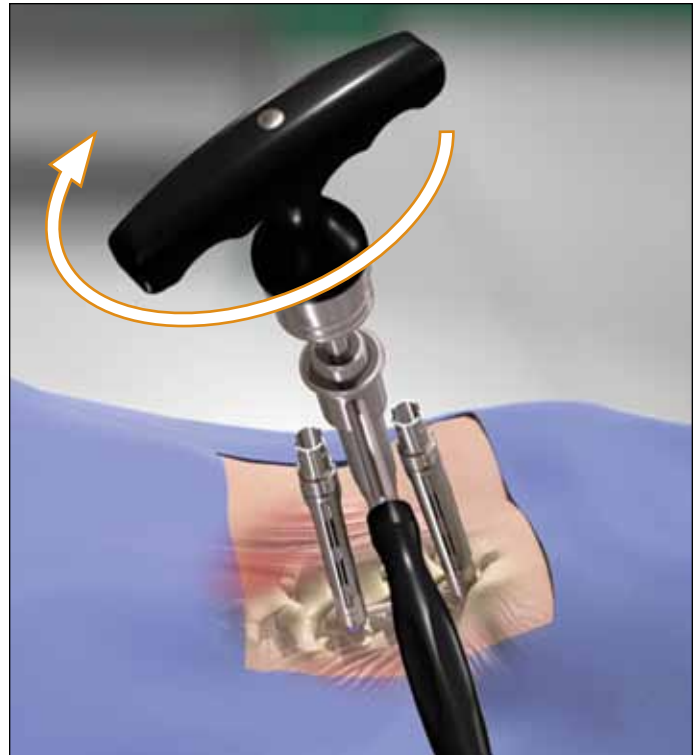

FIG. 33
- Fully tighten one of the Set Screws with the Final Driver and Counter Torque (see page 24 for instructions on Final Tightening). This will provide a solid location for compression or distraction. **(FIG. 33)**